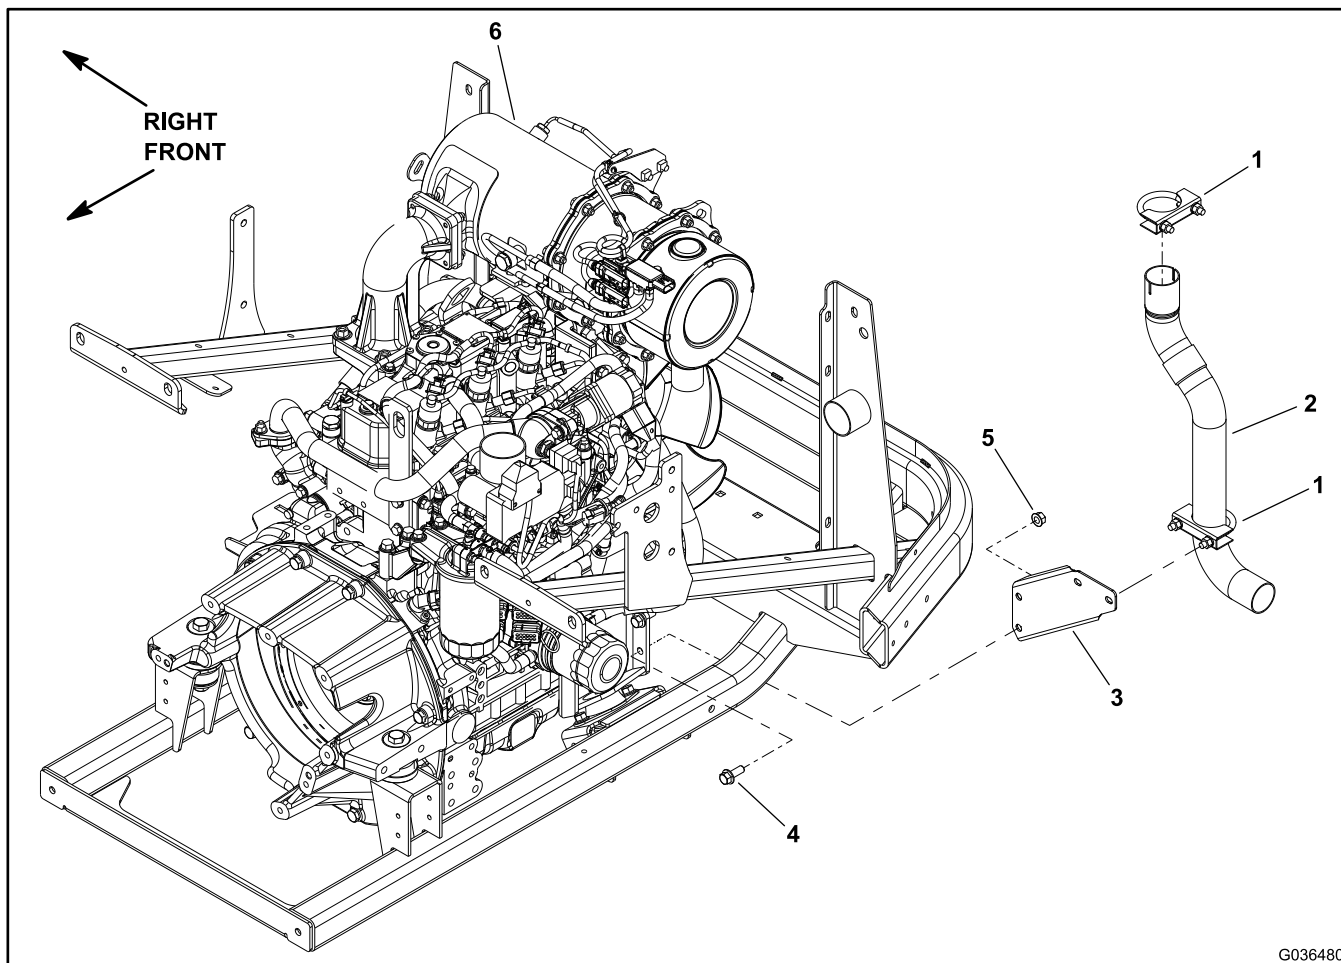

Figure 9
3. Remove the exhaust tube as shown in Figure 9.
- B. Starting at the bottom, tighten the flange nuts (item 5 in Figure 9).